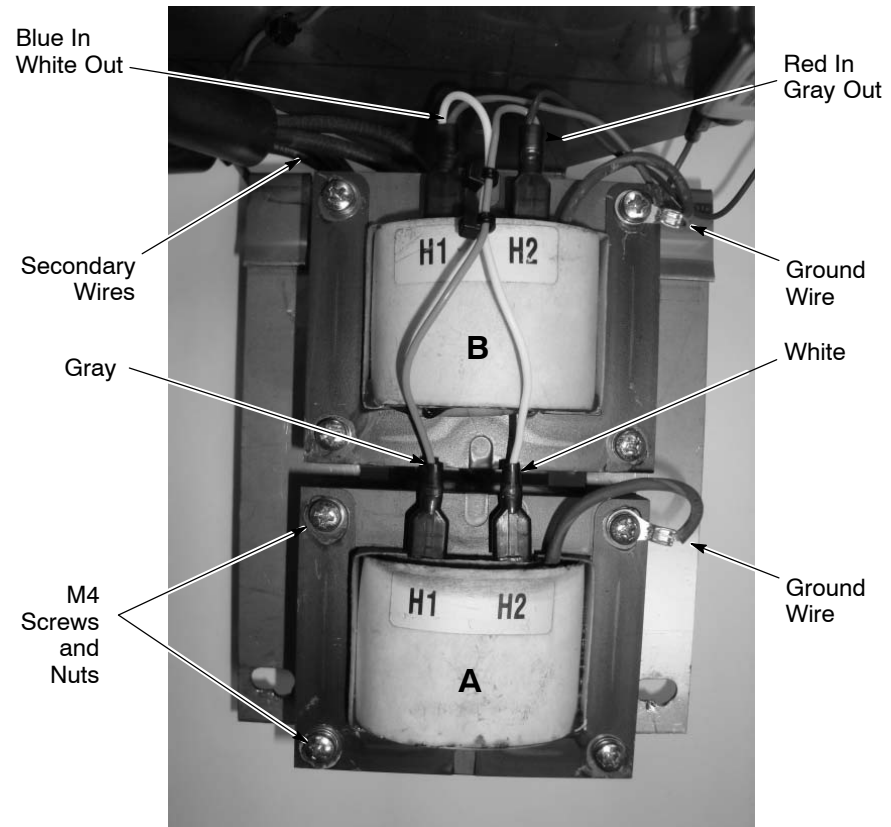

Figure 5 Transformer Wiring and Fasteners
5. See Figure 5. Note the colors of the primary wires connected to the transformer H1 and H2 terminal tabs, then disconnect the wires from the H1 and H2 tabs.
- See Figure 5. Install the new transformer on the bracket. If replacing transformer A, route the X1 and X2 secondary cables through the cable way under transformer B.
11. Connect the primary wires to the transformer H1 and H2 tabs exactly as shown in Figures 5 and 8.